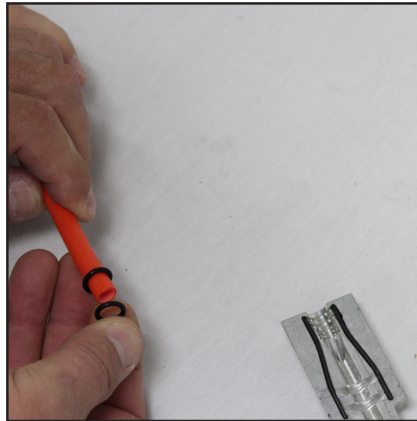

Figure 2. Install O-rings Around the Micro Duct
- Place O-rings around duct (See figure 2)